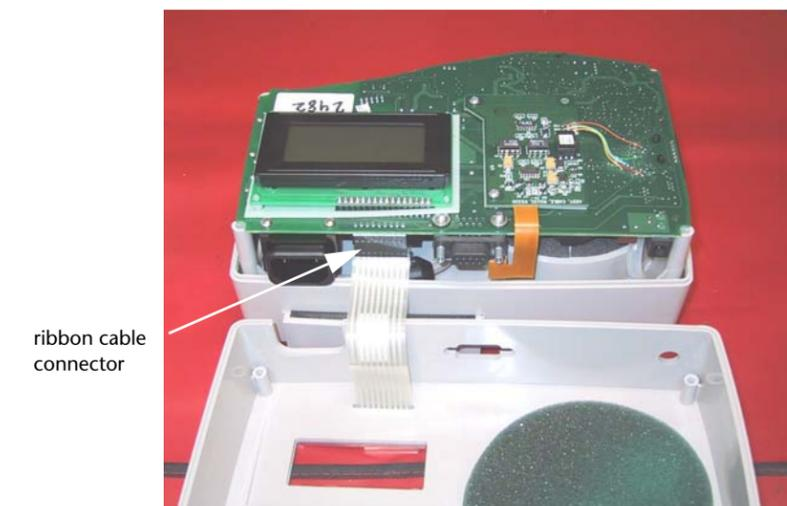

Figure 5-4. Membrane switch ribbon cable
- 5 Place the enclosure cover on the work surface at the back of the device and carefully disconnect the membrane switch ribbon cable connector from the J5 header on the Main PCBA (Figure 5-4).